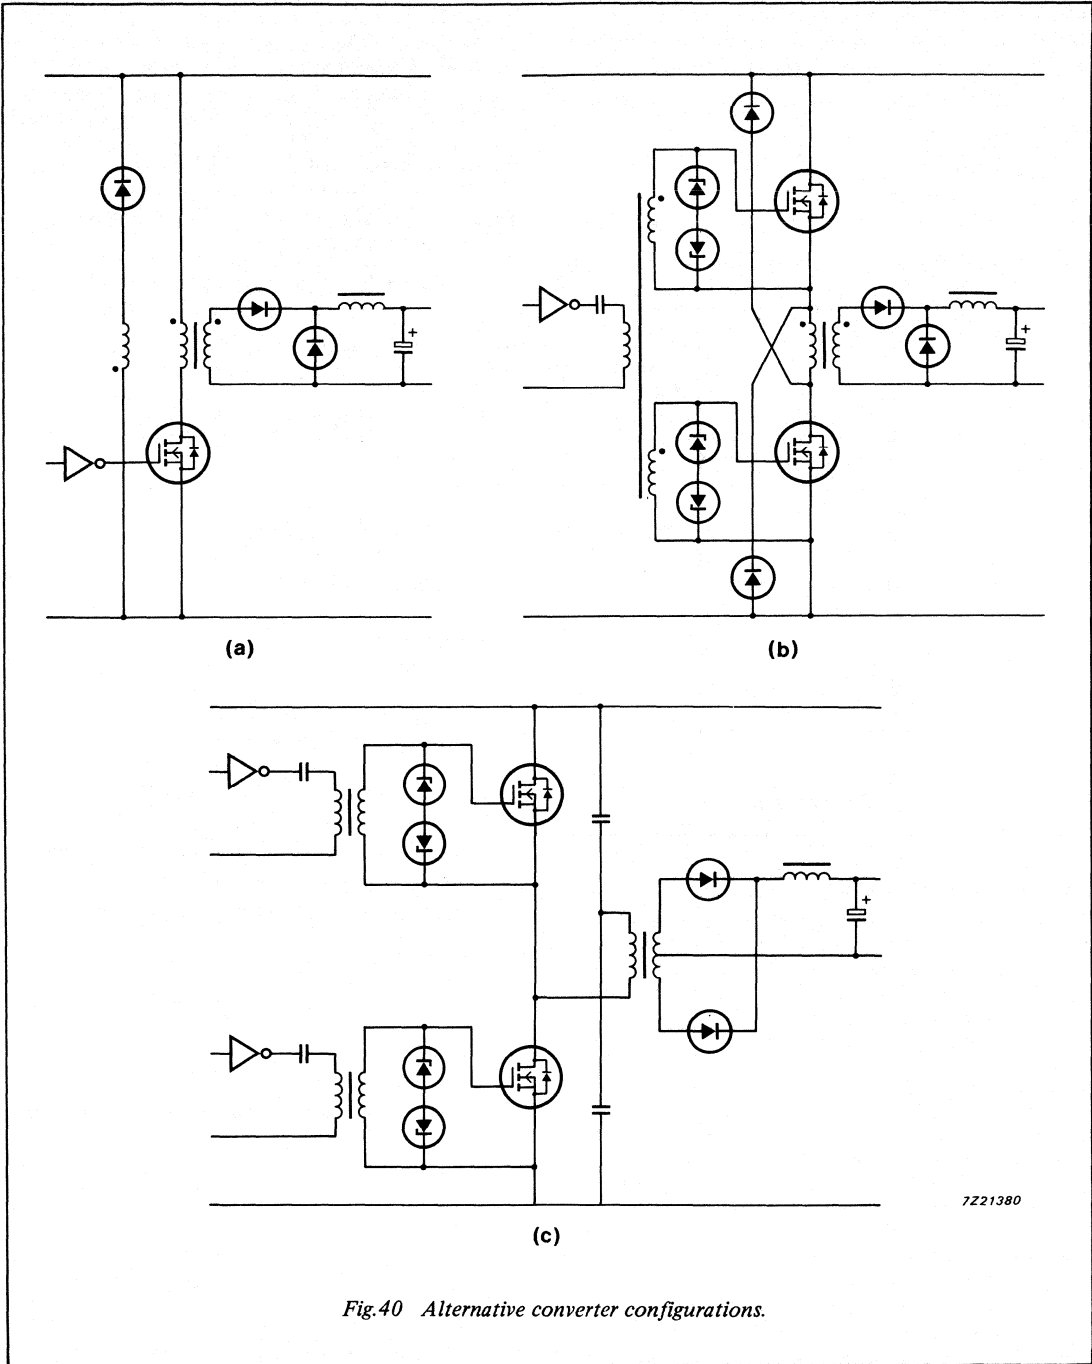
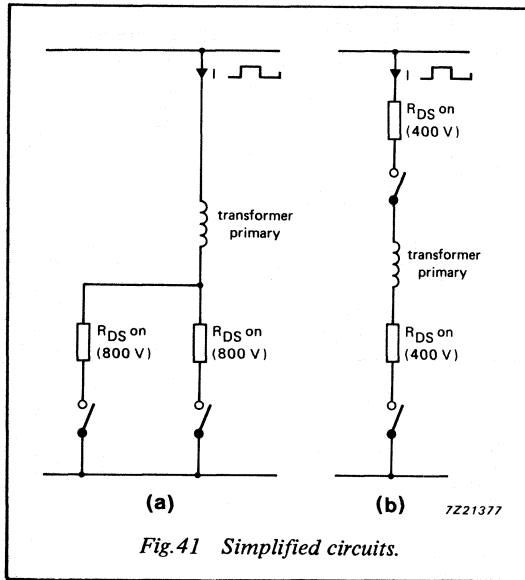

Fig.40 Alternative converter configurations.
Fig. 41 Simplified circuits.
Alternative configurations to the single-transistor forward converter shown in Fig.40(a) are the two-transistor forward converter Fig.40(b) or the half-bridge push-pull converter Fig.40(c).
In making valid comparisons between these circuits, the same number of transistors (two) of the same crystal size should be used. The single-transistor forward converter, Fig.40(a), can be implemented as two standard size transistors in parallel, see Fig.41(a). In a mains-input SMPS, 800 V transistors are employed, while those in Fig.41(b), which are equivalent to the circuits of Figs 40(b) and 40(c), require 400 V ratings. Both circuits take the same current (I) from the supply.
Since device performance per unit area is similar for 800 V and 400 V transistors, selection of one of the three circuits in Fig.40 is governed by the cost of other components. The cost of gate drive transformers, additional diodes and other components for Fig.40(b) and 40(c) can be expected to exceed the cost of the demagnetising winding on the output transformer needed for Fig.40(a). Hence two transistors in parallel in the circuit of Fig.40(a) would be fully competitive with two transistors in the circuits of Fig.40(b) and 40(c). When a single transistor can supply the required power, the circuit of Fig.40(a) is clearly the most economical of the three circuits. Available PowerMOS transistors for this circuit can handle power in the range 50 to 300 W at an efficiency of 95%.